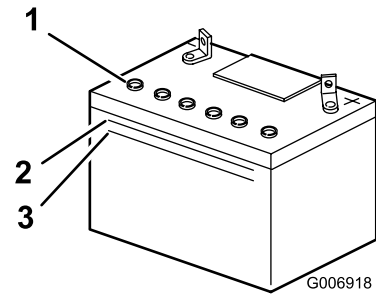

Figure 26
2. Look at the side of the battery. The electrolyte must be up to the Upper line (Figure 26).
Note: Do not allow the electrolyte to fall below the Lower line (Figure 26).
3. Remove the vent caps from the battery (Figure 26).
4. Slowly pour distilled water into each battery cell until the electrolyte level is up to the Upper line (Figure 26) on the battery case.
- Wait 5 to 10 minutes after filling the battery cells. Add distilled water, if necessary, until the electrolyte level is up to the Upper line (Figure 26) on the battery case.